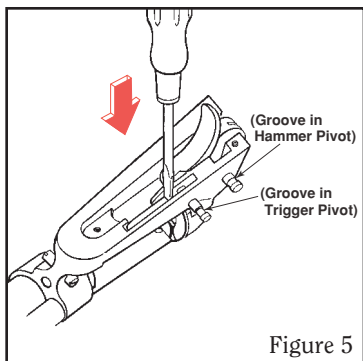

Figure 5
6. Remove the trigger pivot (pin) as follows: using a screwdriver as shown in Figure 5, p. 21, depress the gate detent spring so that the end of the spring which rests in one groove of the trigger pivot is free of the groove. Then, use a drift and hammer to push the pivot completely out of the frame.
4. (Refer to Figure 5, p. 21.) Depress the upper arm of the gate detent spring with tip of screwdriver blade and install trigger pivot. Pivot should be inserted from the gate side of the frame. The non-grooved end of the pivot should be inserted first. (It may be necessary to manipulate the trigger, the gate detent spring, and the cylinder latch to align them to receive the trigger pivot.)